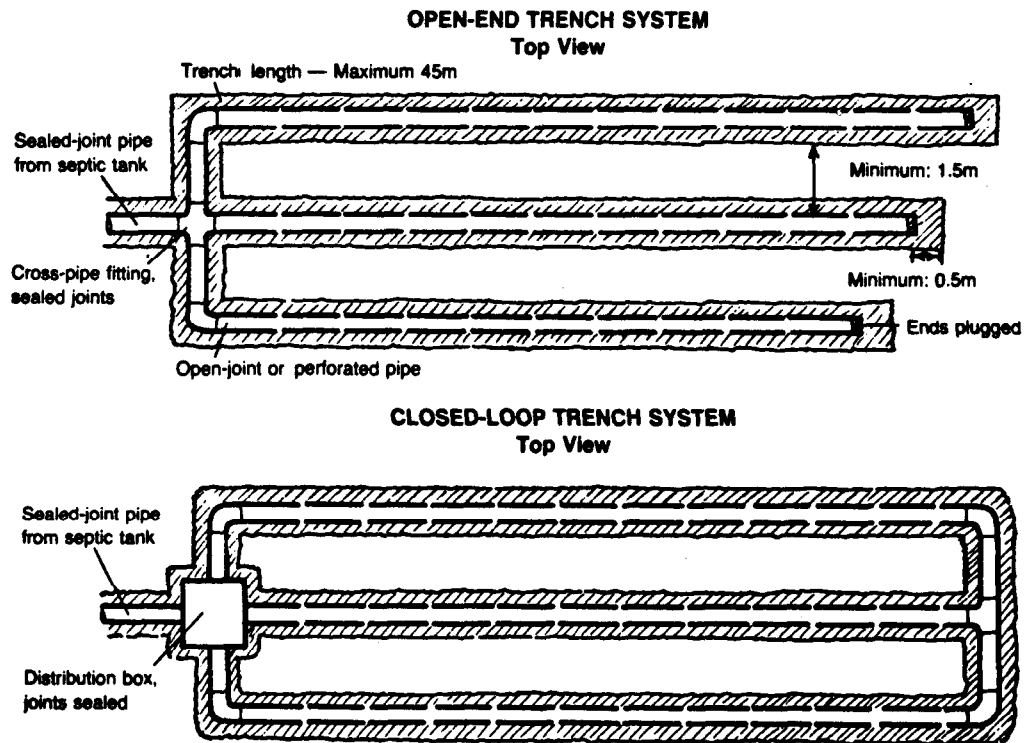
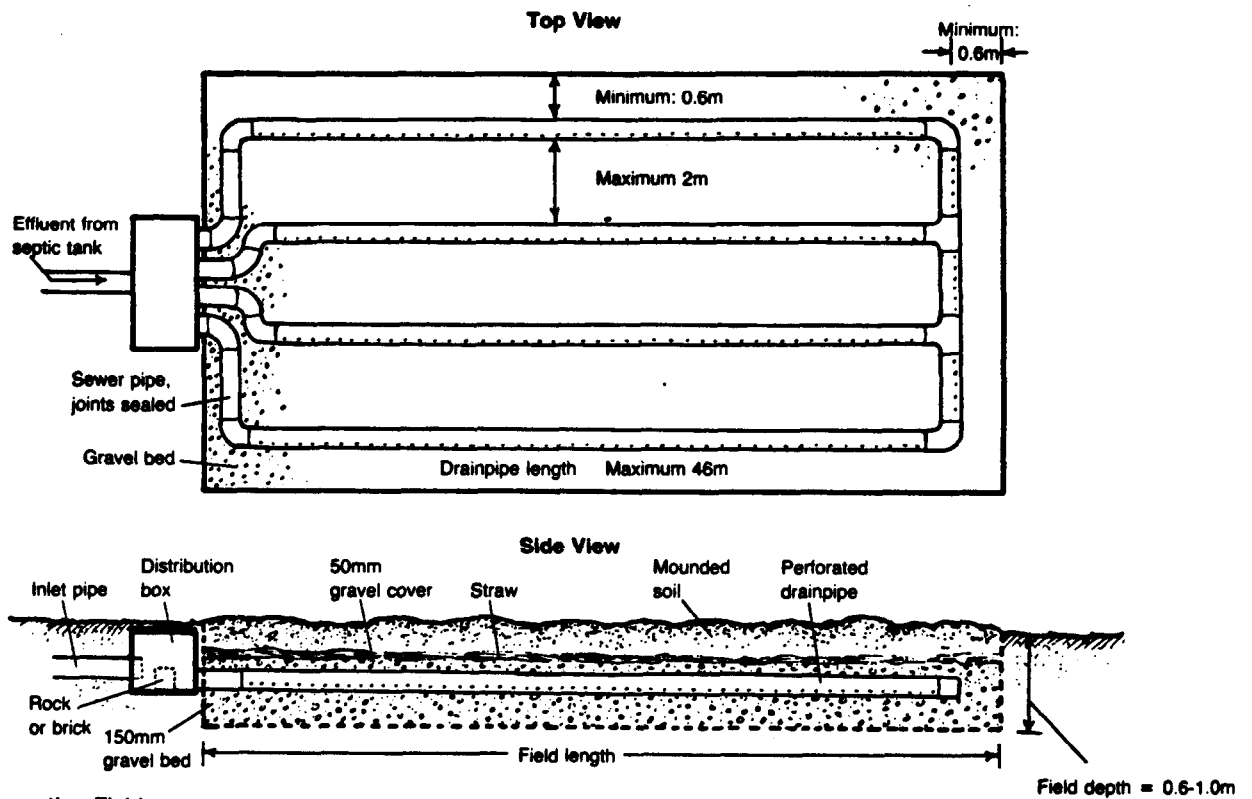

Figure 4. Multiple Trench Systems
Figure 5. Absorption Field
2. Technical drawings, similar to Figure 2, for all systems; Figure 3, for a trench system; Figure 4, for a series of trenches; Figure 5, for a field system; Figure 6, for a distribution box; or Figure 7, for a pit